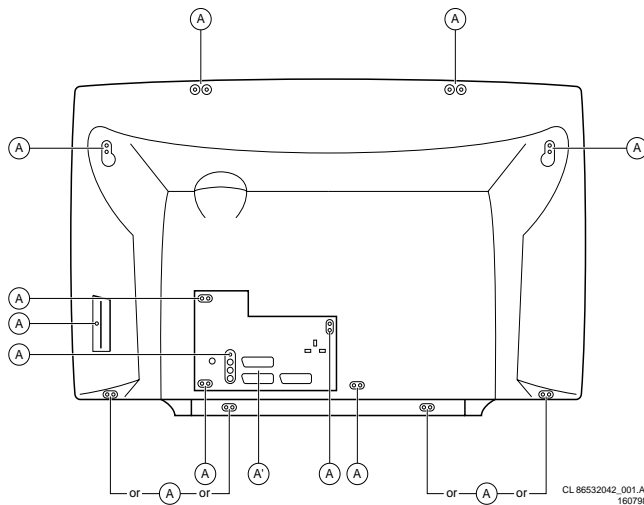

Figure 4-1
1. Remove the fixation screws (A) of the rear cover, notice also the screw for the side-I/O, see figure 4.1. The screw A is only valid for the 3-scart configuration.